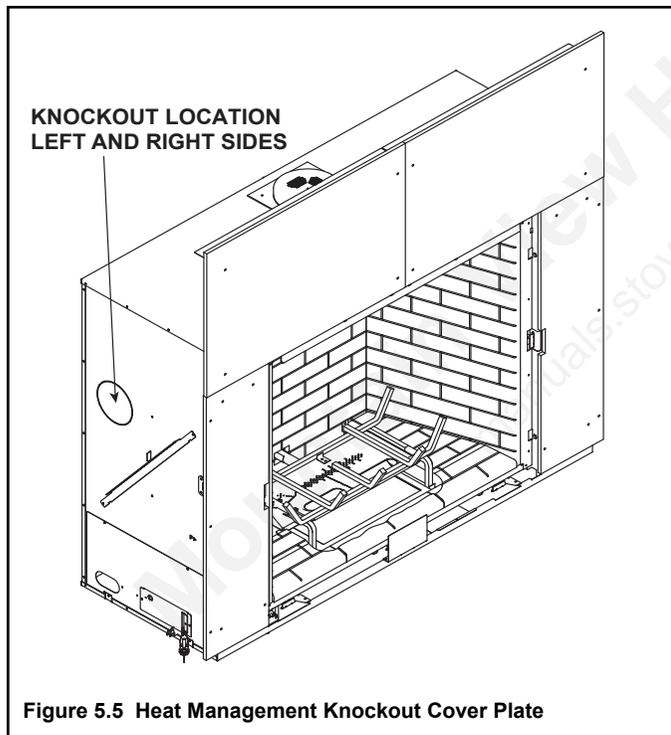

Figure 5.5 Heat Management Knockout Cover Plate
- Locate the heat management knockouts on the left and right sides of the appliance. See Figure 5.5. Remove one of the knockouts from the appliance with a tin snips.